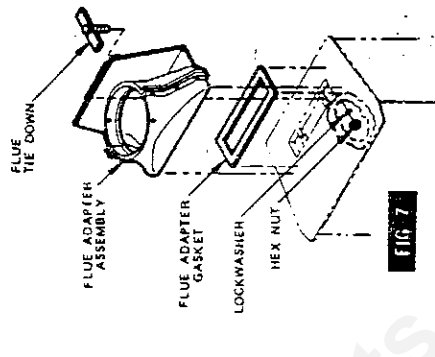

FIG. 7
1. Place flue gasket on flue adapter and install assembly into flue (Fig. 7).